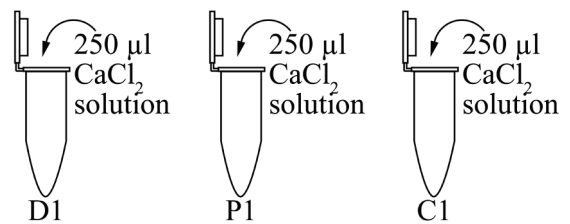

Fig. 10
- Using the P1000 micropipette and sterile tips, add 250 μ l CaCl_2 solution* to each of the micro-centrifuge tubes (Fig. 10).